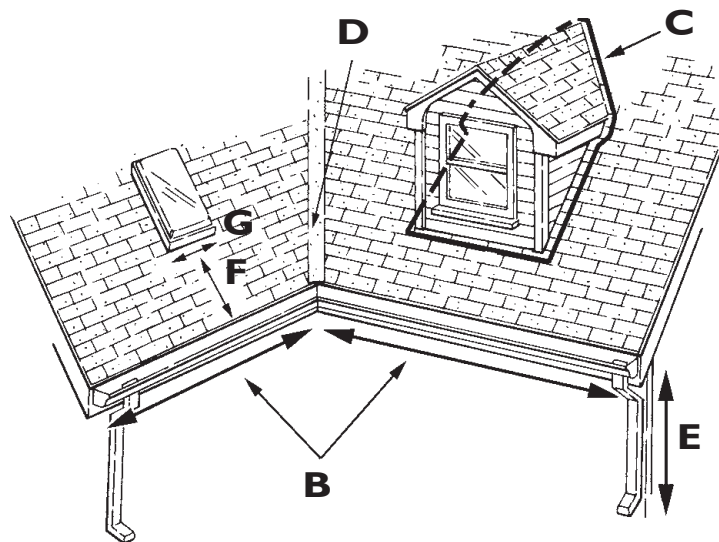

Figure B-3. Roof Measurements
STEP 1. For each area listed in Table B-5, measure the required dimensions (see Figure B-1 on page 20 and Figure B-3) and calculate the length of cable needed. Add each “area” calculation to determine the total cable length needed.